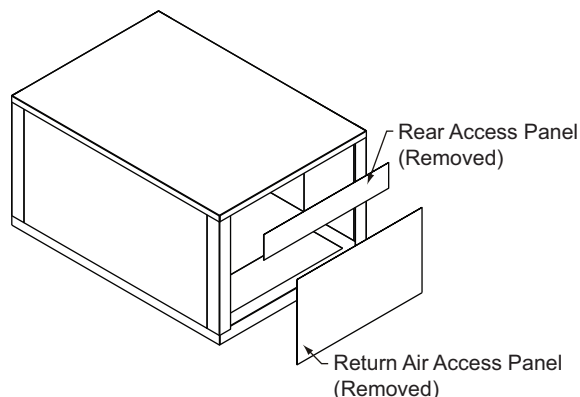

Fig. 33 — Remove Access Panel(s) from Unit
3. Remove return air access panel from unit and rear access panel(s) if applicable as shown in Fig. 33.